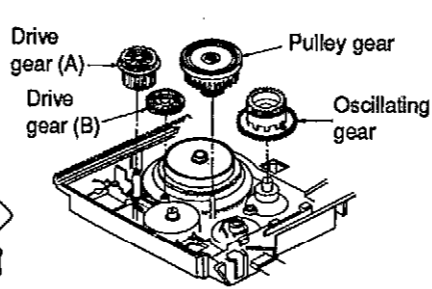

Fig.5
9. Install the drive gear (B), the drive gear (A), the oscillating gear ass'y and the pulley gear. (See Fig.5)